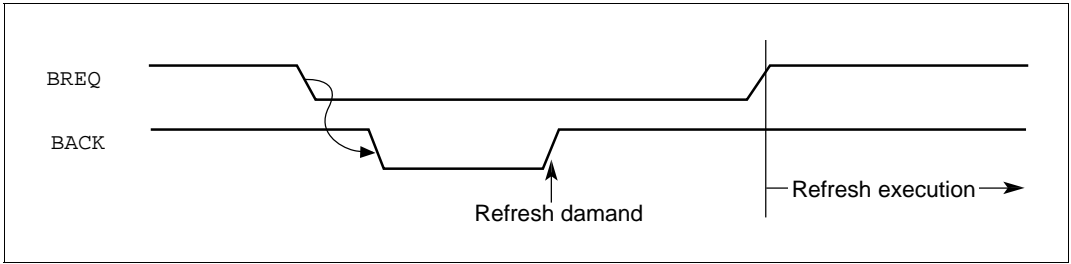

Figure 8.36 $\overline{\text{BACK}}$ Operation by Refresh Demand (1)
1. If DRAM refresh is requested in this LSI when a bus is released and $\overline{\text{BACK}}$ is low, $\overline{\text{BACK}}$ becomes high and the occurrence of the refresh request can be informed externally. At this time, the external device may generate a bus cycle when $\overline{\text{BREQ}}$ is low even if $\overline{\text{BACK}}$ is high. Therefore, a bus remains released to the external device. Then, when $\overline{\text{BREQ}}$ becomes high, this LSI gets bus ownership, and executes refresh and the bus cycle of the CPU or DMAC. After the external device gets bus ownership and $\overline{\text{BACK}}$ is low, refresh is requested when $\overline{\text{BACK}}$ becomes high even if the low level of $\overline{\text{BREQ}}$ is input. Therefore, turn $\overline{\text{BREQ}}$ high immediately to release a bus for this LSI to hold DRAM data (See figure 8.36).